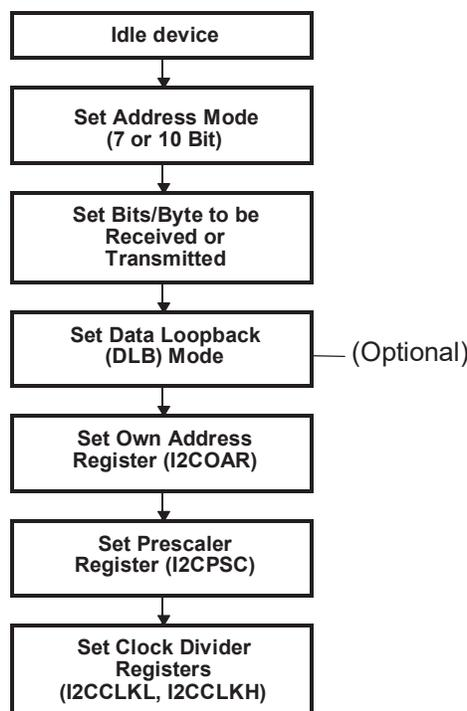

Figure 2. I2C_Init
- `I2C_init()`: Figure 2 shows a block diagram of this function. This function takes a structure that contains various parameters as input and configures the I2C. These parameters include the address mode, the own address, system clock, desired transfer rate, bits per byte to be received or transmitted, data loopback mode, and the free mode.